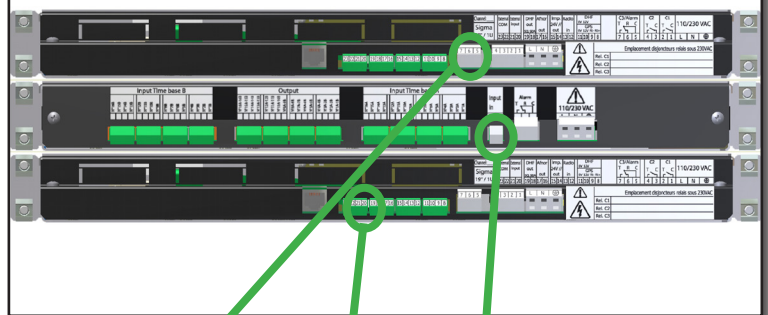

FIG. 1 :
Raccorder l'alimentation 24 VDC ou secteur 110-240 VAC (Fig.: 1).
Raccorder la sortie alarme (bornes 5 et 6) du Sigma maître (A) sur l'entrée externe (bornes 20 et 21) du Sigma secondaire (B) et alarme (borne in) du Switch (Fig.: 1). Cette sortie commandera le basculement vers l'horloge mère secondaire. Le relais 3 du Sigma maître doit être déclaré en alarme (voir §9.4 de la notice du Sigma).
Connect the mains 230VAC or extra low voltage 24 VDC (Fig.1). When the installation (24 VDC) includes several Sigma UPS the earth poles of the sigma UPS batteries should be interconnected. The mains supply for this device must include a neutral phase circuit breaker of maximum 16A C curve (6A maximum for 24VDC version), rapidly accessible upstream from the supply. All cables must be attached to the frame of the cabinet before being connected to the various terminals strips, to prevent any pulling on these terminal strips. In addition, the wires of each terminal strips must be attached to each other to maintain the various isolations if an initial fault occurs. Connect the alarm output (terminals 5 and 6) of the main Sigma (A) on the external input (terminal 20 and 21) of the secondary Sigma (B) and on the alarm input (terminal in) of the Sigma switch (Fig. 1). This output will control switching to secondary master clock. Circuit 3 of the main Sigma must be assigned to alarm (see §9.4 of the SIGMA instruction manual). Equipotentiality of the ground between Sigma master clock and Sigma switch (of «-» for 24 VDC version). Connect the time outputs of the main master clock to Input time base A and the ones of the secondary master clock to Input time base B. Connect the slave clocks to Output. When more than 8 outputs must be switched (for example the 12 outputs of 4 AFNOR option cards) then 2 Sigma Switch modules are required.